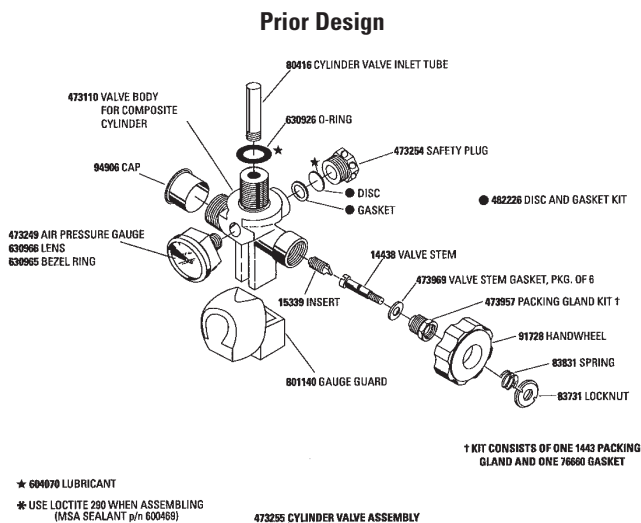

Figure 1: Prior Design Cylinder Valve Assembly
1. Place a thin film of Snoop on all new burst discs. (2216,3000, and 4500 PSI Cylinder Valves). Refer to figure 1 for more information.